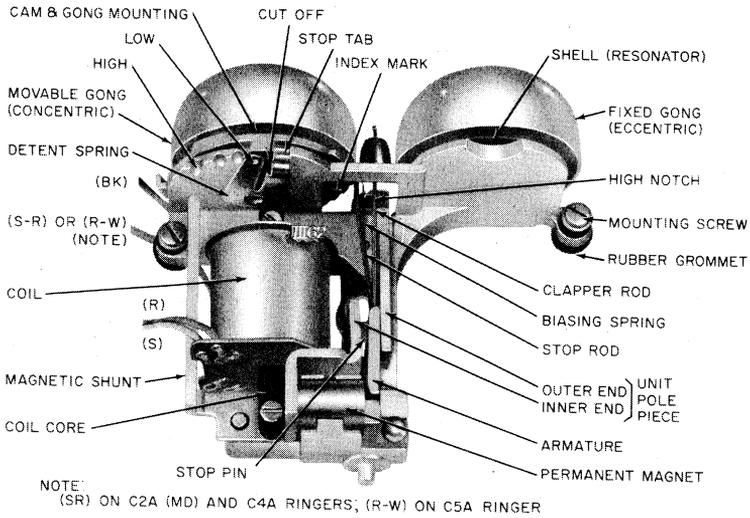
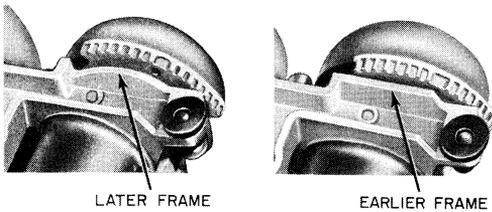

Fig. 1—C4A Ringer
Fig. 3—C4A Ringer Frame Design
- Revise Fig. 1.
1.03 Except for slight physical changes, the C4A ringer (Fig. 1) is similar to the C2A (MD) and C3A (MD) ringers which it replaces.
- (b) The C3A (MD) ringer has only two leads and no magnetic shunt.
- (c) Early manufactured C2A (MD) ringers have a Z-shaped armature hinge and a stop pin on each side of armature. Later development led to the straight hinge on C2A (MD) ringer.
1.04 Development of network-type wall telephone sets and network-type subscriber sets made it necessary to change the frame of C4A ringer (Fig. 3). This change provides clearance for volume-adjusting arm.